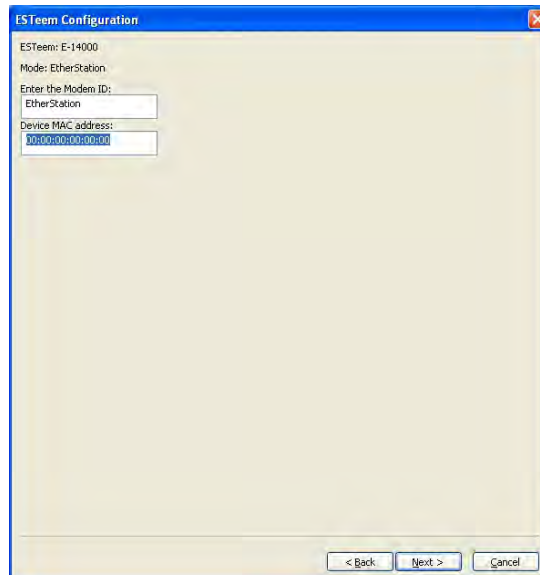

Figure 25: MAC Address Entry
4. EtherStation mode should be selected in the Mode of Operation. Press the Next button at the bottom of the window to continue. Enter the connected Ethernet device's MAC address in the “Device MAC Address” box (Figure 25) and press the Next button at the bottom of the window to continue.